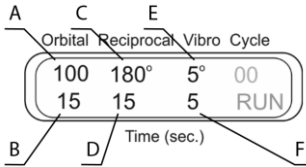
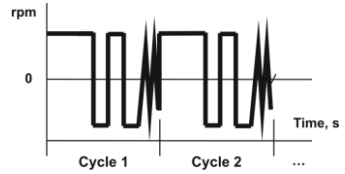

Figure 6
Figure 7
6.9.2 **3D orbital + 3D reciprocal + 3D vibro** (figure 6). Set the speed (A, 1–100 rpm) and time (B, 1–250 s) of 3D orbital motion. Set the angle (C, 0–360°) and time (D, 1–250 s) for 3D reciprocal motion. It is performed at the same speed as the orbital motion. Set the turning angle (E, 0–5°) and time (F, 1–5 s) for 3D vibro type motion. Figure 7 shows 3D orbital, 3D reciprocal and 3D vibro motions run one after another in cycles.